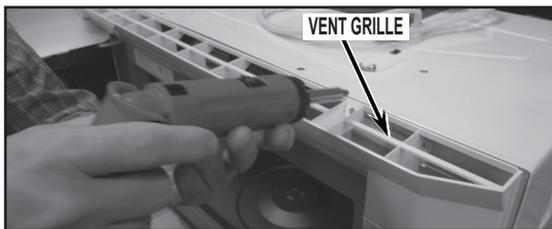

FIGURE 1
2. Remove vent grille assembly. See *Figure 1*.